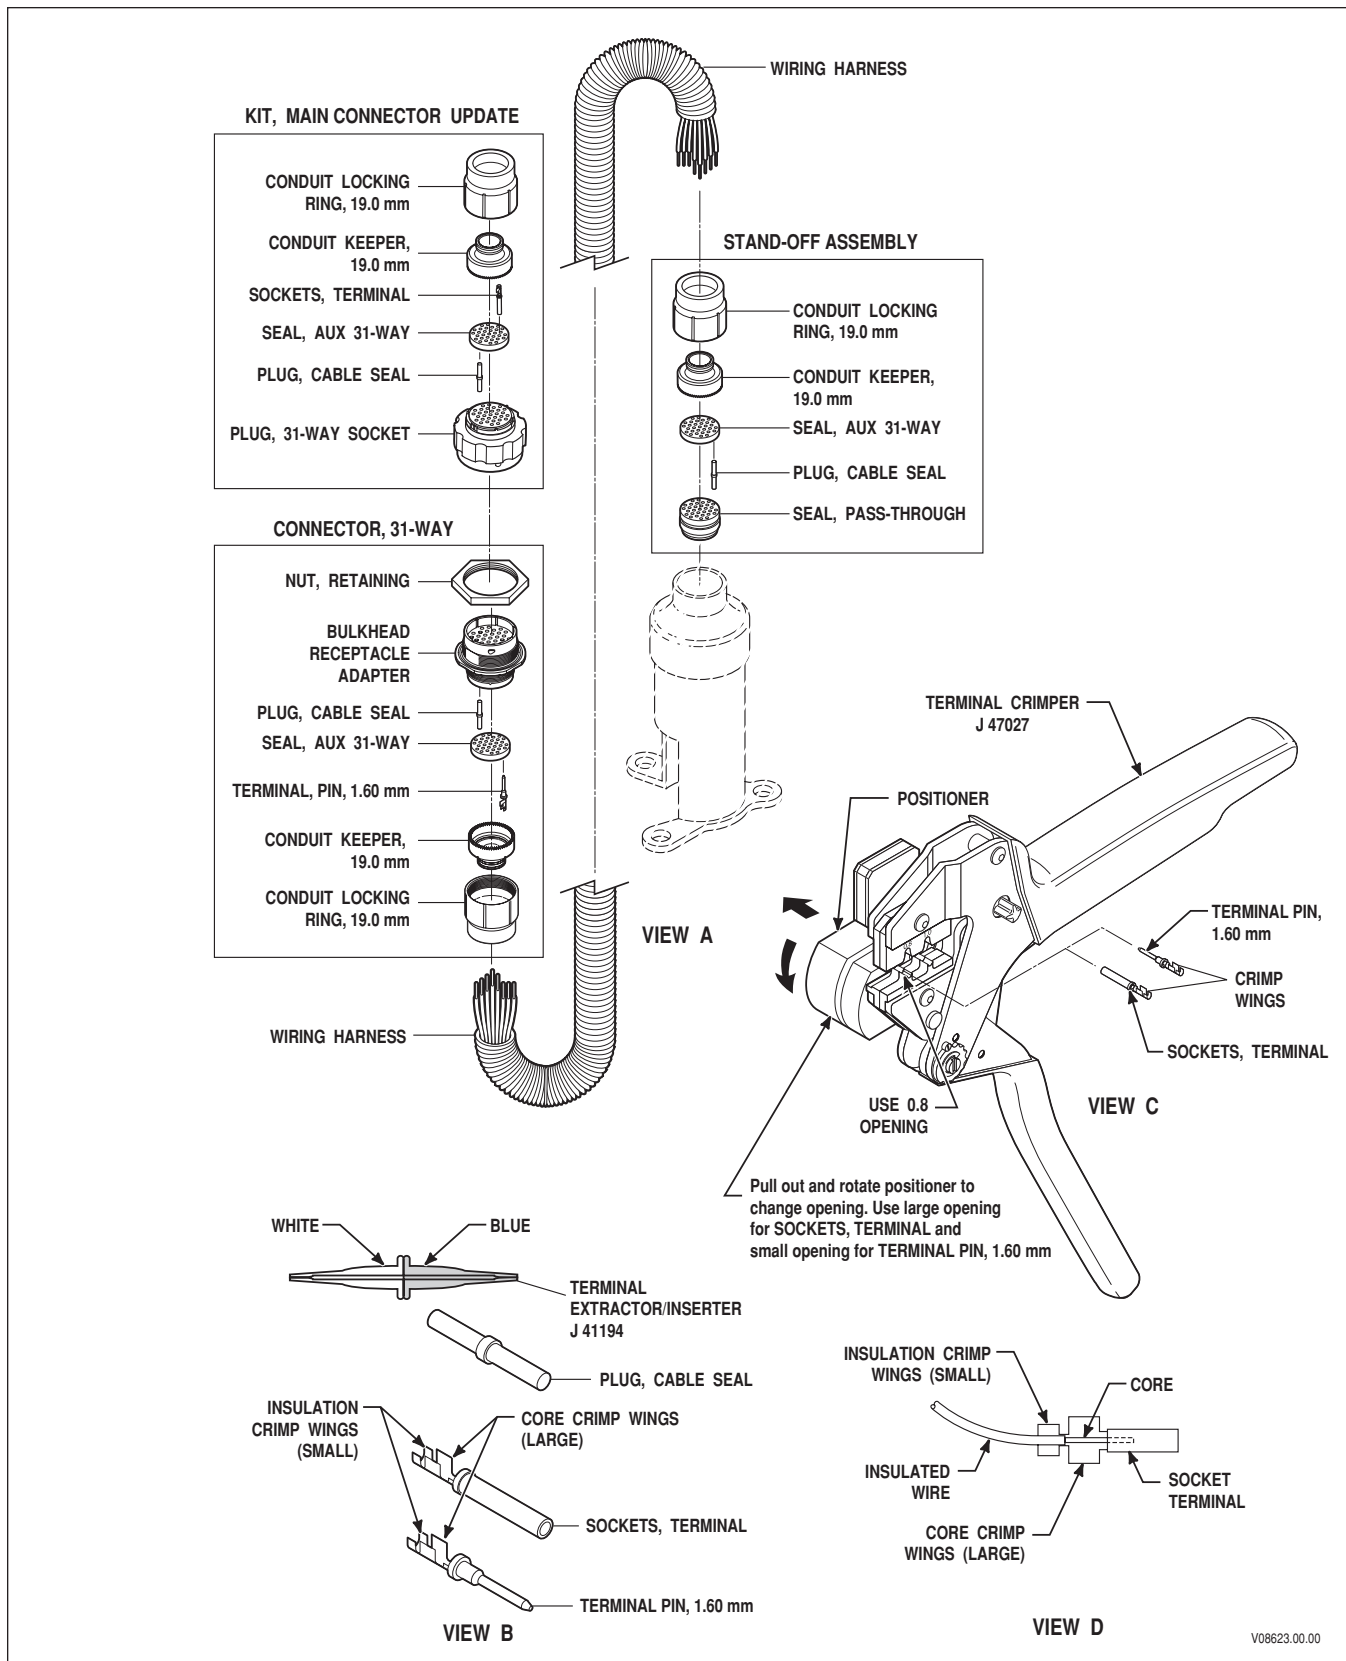

Figure E-17. Delphi-Packard (DHD) Connectors (31-Way); Crimping Tool
#### A. Connector/Terminal Repairs And Crimping Tool (Figure E-17)
### C. Terminal Crimping (Figure E-17, View C)
3. Position the socket in the crimping tool so the crimp wings are up (Figure E-17, View C).
4. Insert the core into the socket until the core is in the core crimp wings and the insulation is in the insulation crimp wings (Figure E-17, View D).
**NOTE:** If replacing an auxiliary seal (refer to Figure E-17, View A), be sure the auxiliary seal is correctly installed. Each auxiliary seal is marked with the terminal ID of the wire that passes through that hole (Figure E-20). The auxiliary seal holes match the pattern of either the pins or sockets in the bulkhead receptacle adapter or plug respectively. One side of the auxiliary seal is marked "PIN" (Figure E-20, View A) and the other side is marked "SOC" or "SKT" (Figure E-20, View B). "PIN" indicates the pin (bulkhead receptacle adapter) side of the connector. "SOC" or "SKT" indicates the socket (plug) side of the connector. When installing the auxiliary seal in the bulkhead receptacle adapter side of the connector, be sure "PIN" side is showing and position it so the "A" terminal ID on the auxiliary seal aligns with the "A" terminal ID on the bulkhead receptacle adapter. When installing the auxiliary seal on the plug side of the connector, be sure "SOC" or "SKT" is showing and position it so the "A" terminal ID on the auxiliary seal aligns with the "A" terminal ID on the plug. Reversing "PIN" and "SOC" or "SKT" sides of the auxiliary seal will cause the auxiliary seal holes to be misaligned with the holes in either the plug or bulkhead receptacle adapter. Perform Steps 1 and 2 only if the auxiliary seal has been removed.